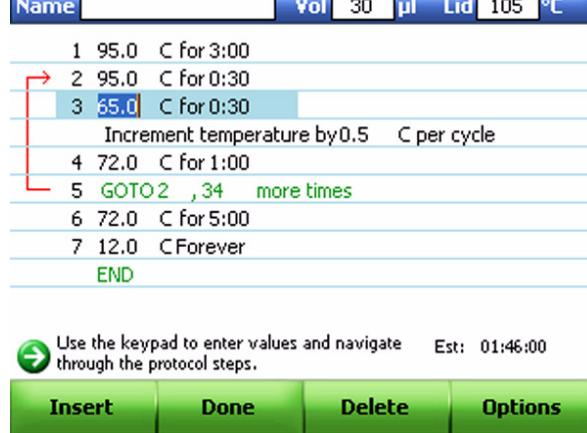

Figure 41. A temperature increment added in step 3 of the protocol.
Step 3 of the protocol in Figure 41 has an increment